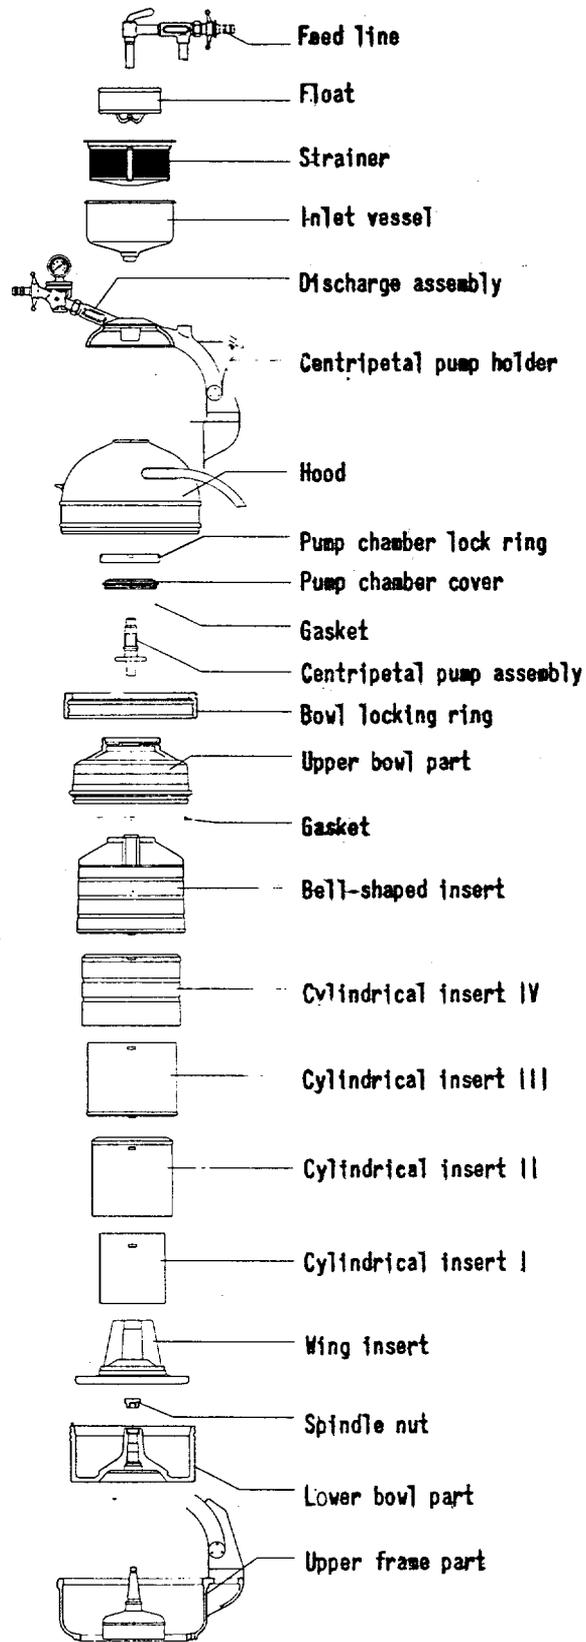

Fig. 2a
4.2 Assembling the Six-Chamber Bowl (Fig.2a)
4.4 Installing the Hood - Assembling the Feed and Discharge Connections (Open Feed, Fig.2a)